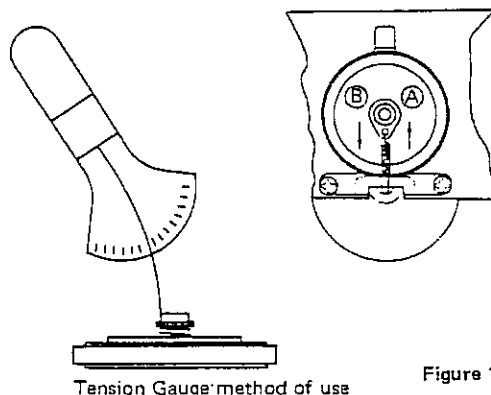

Figure 13
2. Move the reel idler to the center as shown in figure 13.
3. Push the reel idler in the direction of the arrow (A) in figure 13, with the tension gauge, until it separates from the reel motor pulley.
4. Gradually return the reel idler in the direction of arrow (B) in figure 13 and check that the value on the tension gauge at the moment the reel idler contacts the reel motor pulley, is within the specified range (120 to 170g.).